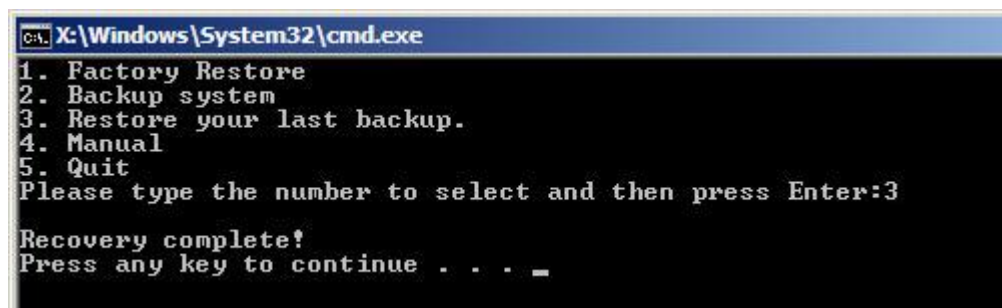

Figure B-40: Restore System Backup Complete Window
**Step 3:** The screen shown in **Figure B-40** appears when backup recovery is complete. Press any key to reboot the system.